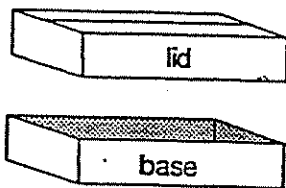

Figure 1
1. Take a large box and cut it in half as shown in Figure 1. Set one half aside to be used for the lid. The other half becomes the base.